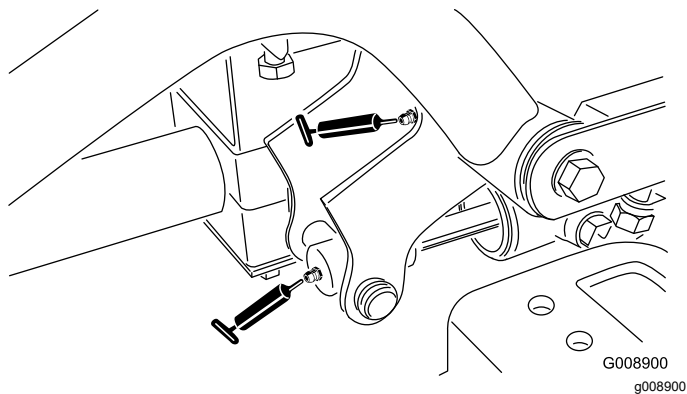

Figure 51
- Right front lift arm pivot and lift cylinder (2) (Figure 51)